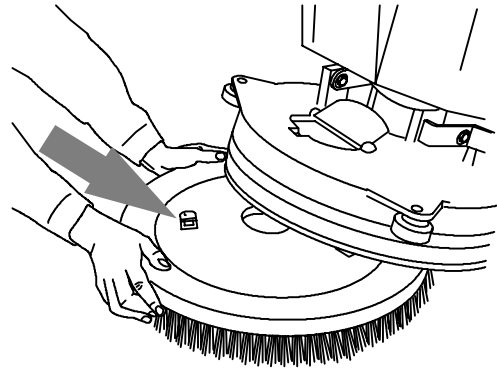

FIG. 11
5. Place scrub brush under scrub head. Make sure one of brush drive pins is facing front (Figure 11).